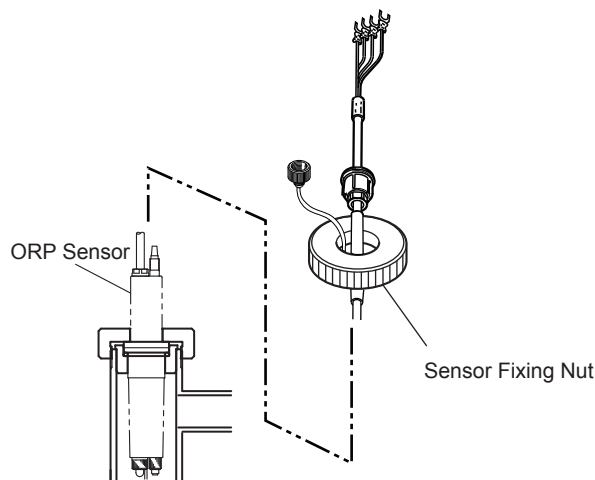

Figure 2.10 Preparation for Sensor Cable Connection
- (5) Connect the ORP Sensor to its holder. Remove the protective cap from the sensor. Also remove the protective foam piece (for shipping - this is not necessary after installing the sensor) from the holder. Be sure that the liquid junction and indicator electrode are mounted properly. Insert the sensor tip into the holder and tighten the sensor fixing nut securely (see Figure 2.10).